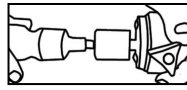

Fig 3.
4. Unscrew primary (drum) filter from valve body and replace it with new element (See Fig 3.)